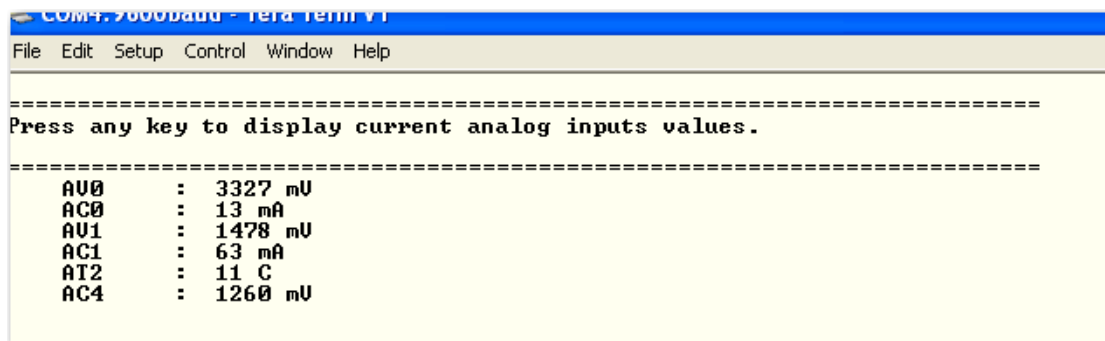

Figure 2-10 · Application Output
- Press the reset push-button on your target board. The terminal program should show a sign-on message. Click any key on your keyboard to send a character to the board. The board should respond by printing a message similar to that shown in Figure 2-10.